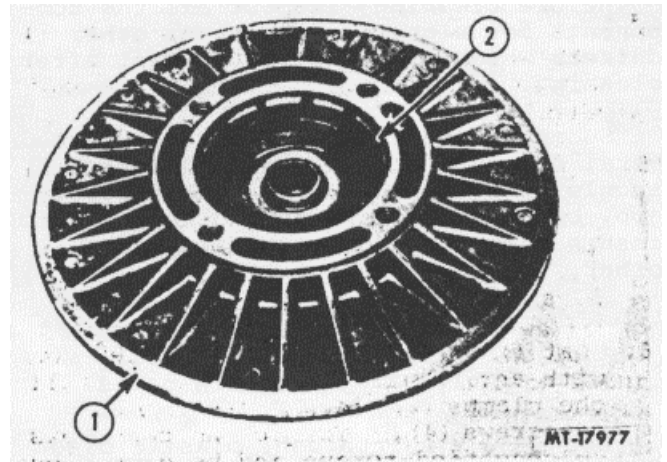

Fig. 22. Thrust Spring In Back Plate
7. Install a new seal ring (13) into the groove in the compressor side of the center housing.
8. Insure the thrust spring is correctly seated in the back plate (Fig. 22).